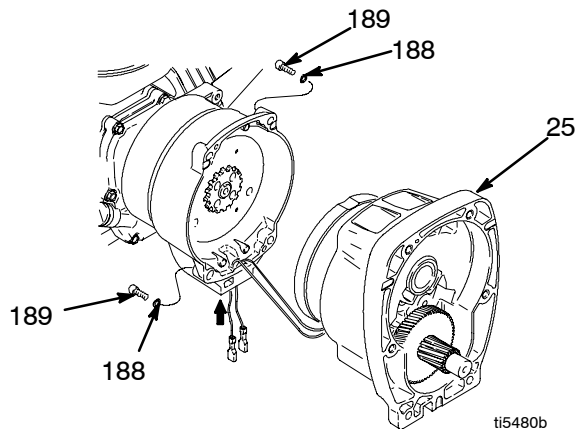
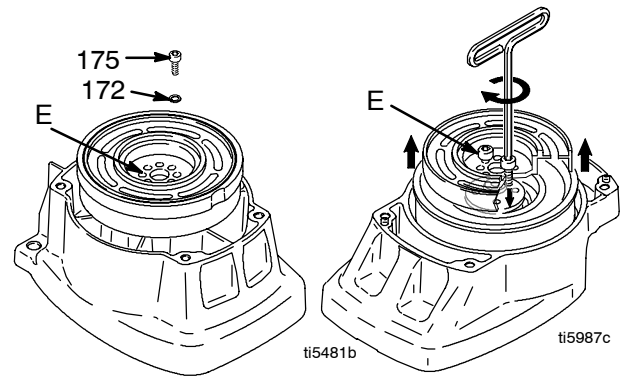

Fig. 4
Fig. 5
4. Fig. 4. Remove four screws (189) and lockwashers (188) and pinion assembly (25).
5. Fig. 5. Place pinion assembly (25) on bench with rotor side up.
6. Remove four screws (170) and lockwashers (172). Install two screws in threaded holes (E) in rotor. Alternately tighten screws until rotor comes off.
9. Fig. 5. Place pinion assembly on bench with rotor side up.
10. Apply thread sealant to screws. Install four screws (170) and lockwashers (172). Alternately torque screws to 125 in-lb until rotor is secure. Use threaded holes to hold rotor.
11. Fig. 4. Install pinion assembly (25) with five screws (189) and lockwashers (188).